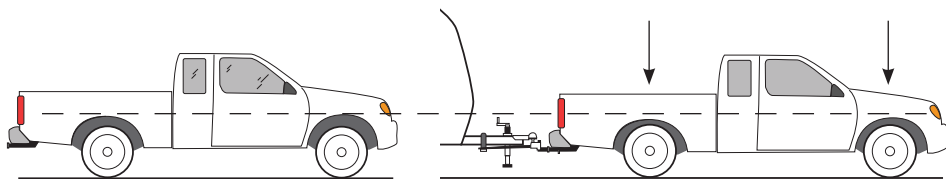

Figure 17 - good weight distribution
- 2.The REAR of the tow vehicle is slightly lower than its unloaded height, but noticeably higher than it is when loaded on the ball mount only, without weight distribution engaged. (Line C is between lines A and B, but likely closer to A. Line C is NEVER HIGHER than line A). See Figure 17.